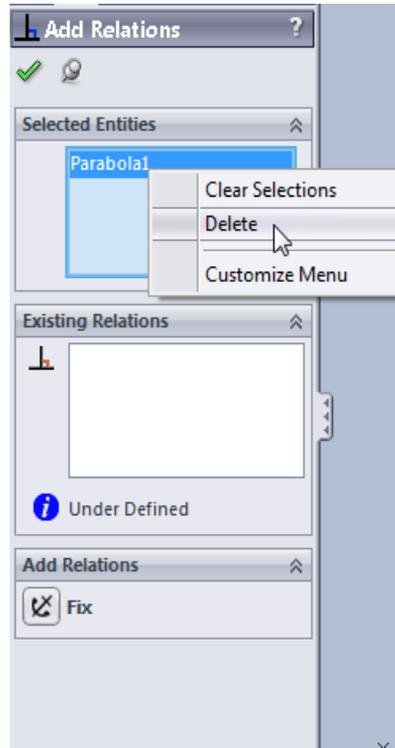

Figure 17 Deleting a relation on the Add Relations PropertyManager
- 13 On the Add Relations PropertyManager under **Selected Entities**, if **Parabola[*]** is displayed, right click it, and click **Delete**. See Figure 17.